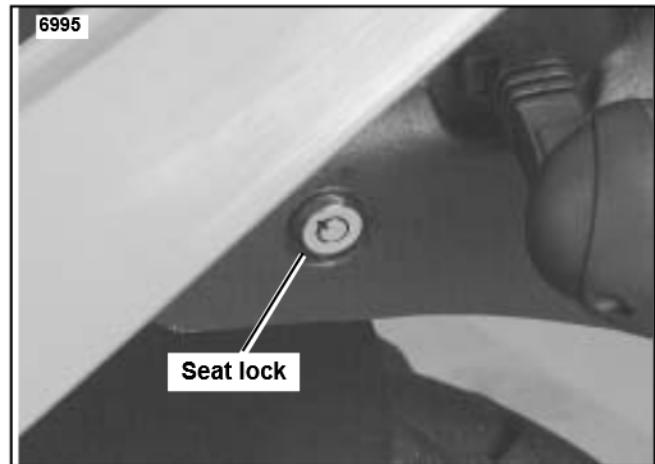

Figure 1. Seat Lock
Depending upon vehicle production date, lock orientation may vary from Figure 1.
1. See Figure 1. Place ignition key in seat lock and turn.